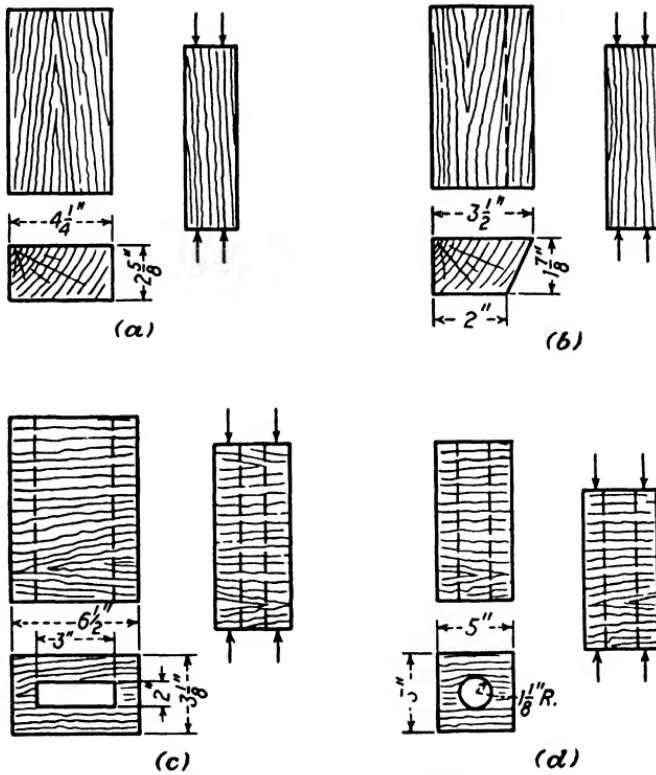

Fig. 213.—All blocks are of spruce.
6. Find the strength in compression of each of the blocks of spruce shown in Fig. 213.